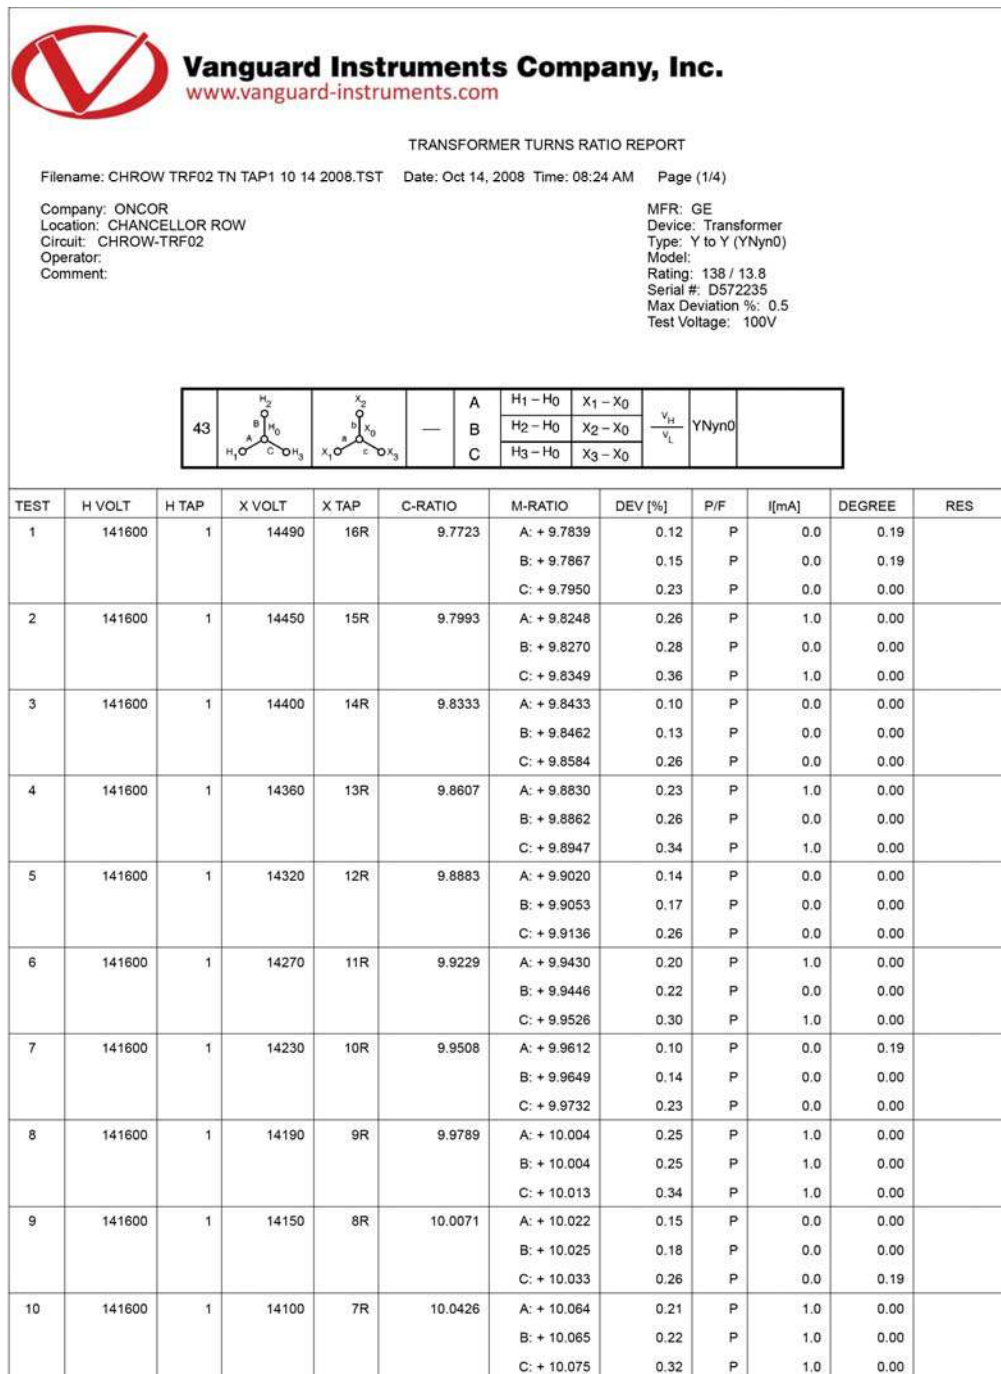

Figure 1. A Typical Test Record Printout
2. Select the printer to print to and make any necessary changes to the printer's parameters and then click on the "OK" button. The test results will be printed. A sample test record printout is shown in Figure 1.